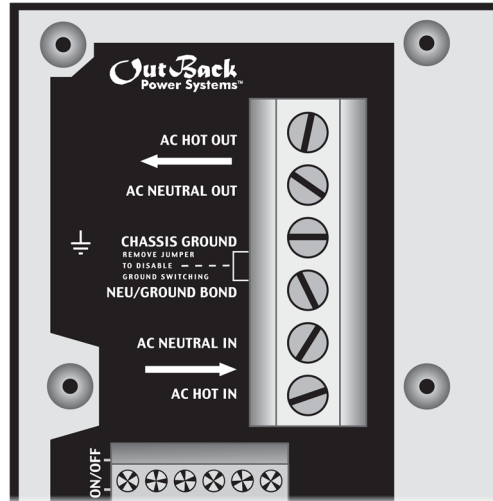

Figure 32 AC Terminals
- Using a DVM or voltmeter, measure between **AC HOT OUT** and **AC NEUTRAL OUT**. (See Figure 32.) The inverter is working correctly if the AC output reads within 10% of 120 Vac.